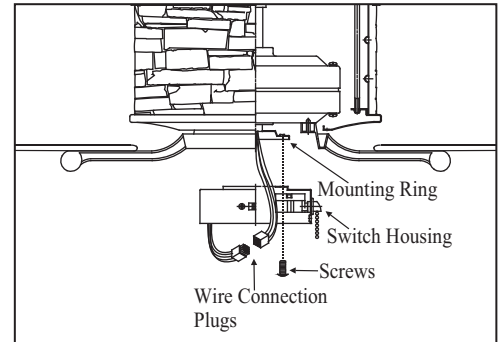

Figure 14
3. Carefully push all wires back into the switch housing. Place the key holes on the switch housing over the 2 screws previously loosened from the mounting ring, turn switch housing until it locks in place at the narrow section of the key holes. Secure by tightening the 2 screws previously loosened and the one previously removed. (Fig. 14)